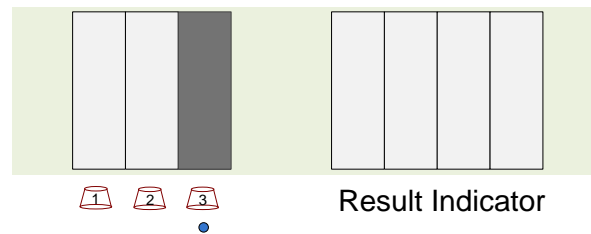

Figure 3 (a)
- b. The cup LED with the ball is on, as illustrated in Figure 3 (a), where the ball is with Cup 3. Other LEDs are off.